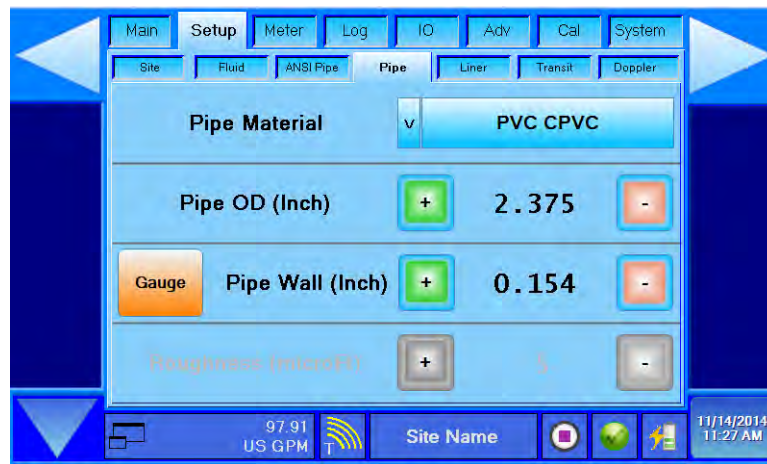

Figure 62: Setup > Pipe
2. In the *Setup > Pipe* screen, make sure that the *Pipe Material* and *Pipe OD* have been entered as in *Figure 62*.
2. From the *Setup > Pipe* screen, press **Gauge** to enter the pipe gauge wizard (see *Figure 62*). The Ultrasonic Thickness Gauge wizard appears in *Automatic Analysis Mode*.